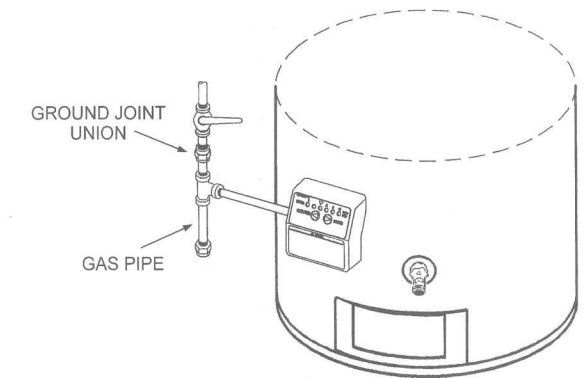

FIGURE 10.
14. Connect gas piping to the Intelli-vent™ Thermostat Control, (184960 Series) and only to the type of gas (i.e. Natural or Liquefied Petroleum/ LP gases, Propane gas) as shown on the rating plate. Use only clean 1/2 inch black iron pipe. (Dirt and scale from the pipe can enter the control and cause it to malfunction). The inlet gas line must have a drip leg (sediment trap) installed as close as possible to Intelli-vent™ Thermostat Control, (184960 Series) having a minimum length of three (3) inches (7.6 cm). A ground joint union must be installed in the gas supply line feeding the water heater to permit servicing, of the water heater, see Figure 10. Joints shall be made using approved gas pipe joint compound on